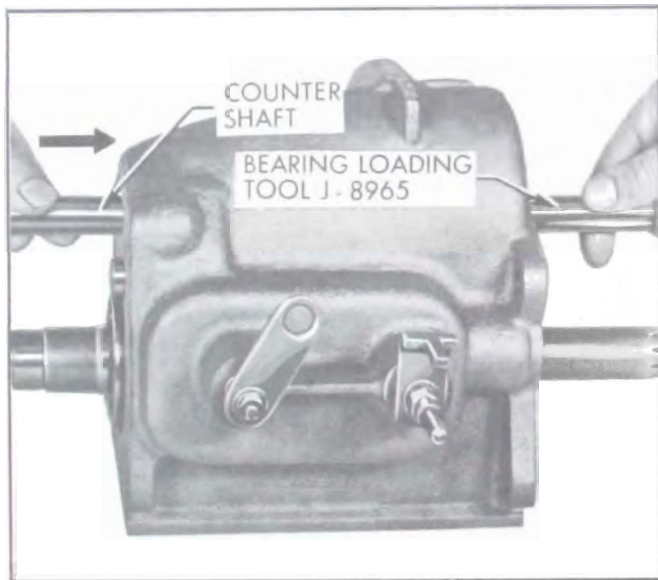

Figure 4-33—Installing Counter Shaft
13. Turn transmission upside down on bench to allow counter gear and loading tool assembly to drop to normal position. Align bore in counter gear with bore in transmission case and install counter shaft through rear of case with lock plate slot facing reverse idler shaft. Leave counter shaft projecting approximately 1/16'' from fully installed position. See Figure 4-33.